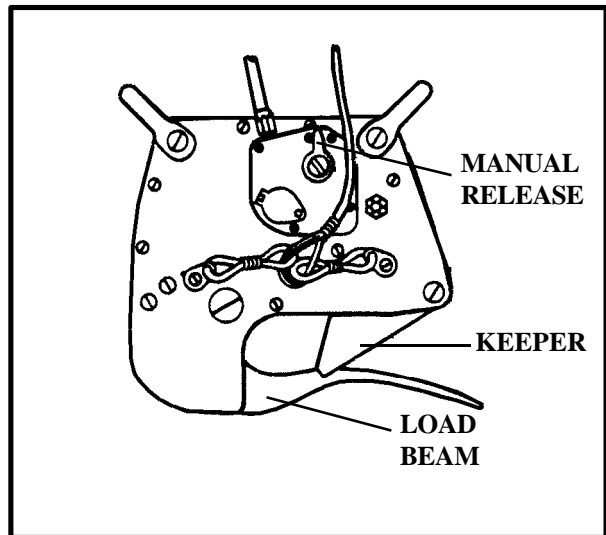

Figure 2-9. H-3 Cargo Hook System
(3) Both cargo hooks (Figure 2-9) are normally opened manually or electrically by the aircrew. A manual release lever is located on the right side of the cargo hook. In an emergency, the ground crew can move the lever aft to open the cargo hook. If the manual release lever should fail to open the cargo hook, do not use the cargo hook.